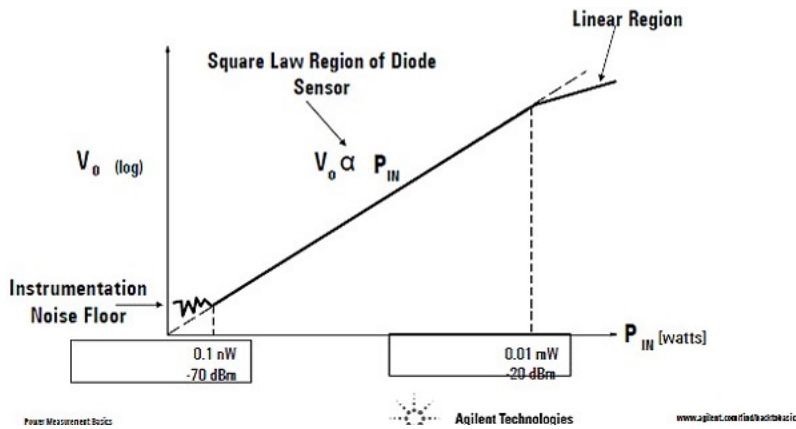
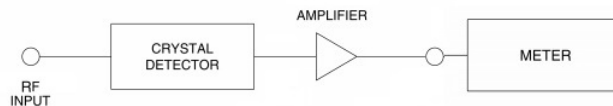

Figure 1: Typical characteristic curve of an RF detector. Image courtesy of Agilent Technologies
Figure 2: Simplified schematic for RF power detection
Figure 1 shows a typical response of an RF detector in which the square-law region is clearly indicated.
may be made on unmodulated signals giving a direct current or voltage from the detector. For the utmost sensitivity, the detector should be followed by some signal amplification before the output is presented on an indicator. The problems associated with stable, high gain DC amplifiers can be avoided by using an RF source that is modulated at an audio frequency. The resulting low-level detected audio signal may be easily amplified in a narrow band, high gain amplifier. As indicated in Figure 2, a crystal detector can be used to detect very small signals by the use of a low-noise amplifier following its low-pass output.
The range of power levels that can be detected or accurately measured is limited at higher power levels by the deviation of the device from the square law characteristic and at the very low power levels by the noise produced by the detector itself and the following amplifying system as depicted in Figure 1.
1. Explain how representing input power and output voltage in log scale might benefit the representation of square-law region? **Hint:** Look at Figure 1 and think of the mathematical function that relates them. Also, look at question 2 below.
2. In the scenario illustrated in Figure 2, if the gain of our detector (i.e. the gain of the amplifier before the output terminal) was made 4 times larger, how would the slope of its output (in log scale) (see Figure 1) change (if at all)?